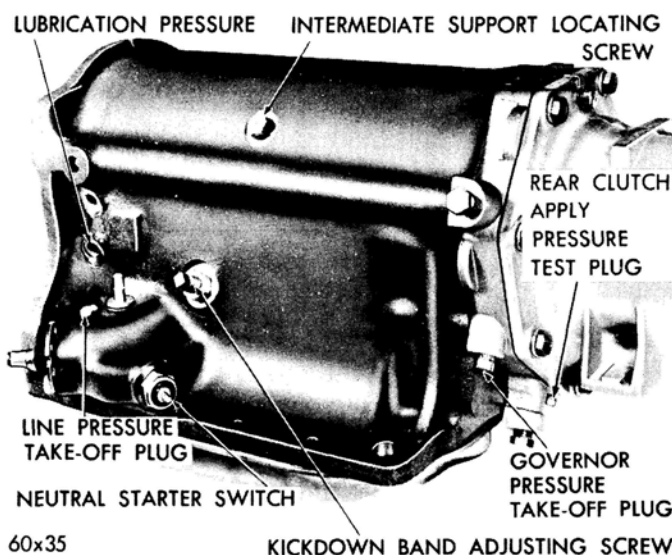

Fig. 1—Transmission Case (Left Side)
(E) **Kickdown Band Adjustment** — The kickdown band adjustment screw is found on the left side of the transmission case (Fig. 1). Refer to Paragraph 8-A.
(T) **Air Pressure Checks** — The front clutch, rear clutch, kickdown servo, and low reverse servo may be checked by applying air pressure to their respective passage when the valve body is removed. To make the complete air pressure check proceed as follows: (Refer to Figs. 1, 2 and 3). **CAUTION: Compressed air supply must be free of all dirt and moisture.**